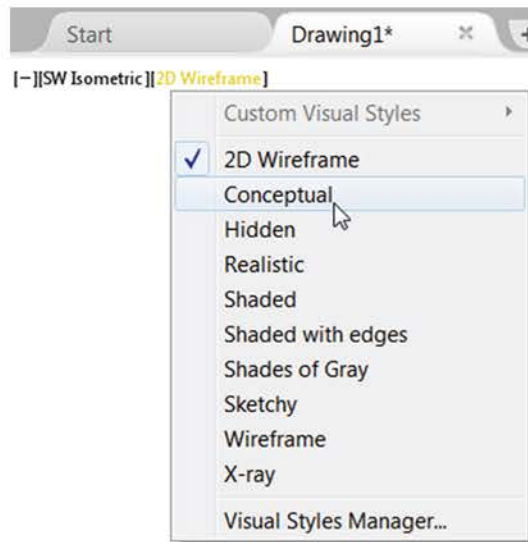

Fig. 9.8 Selecting Conceptual shading from the Visual Styles drop-down menu in the viewport controls
THE POLYSOLID TOOL (FIG. 9.8)
5. Select **Conceptual** from the **Visual Styles** drop-down menu (Fig. 9.8).